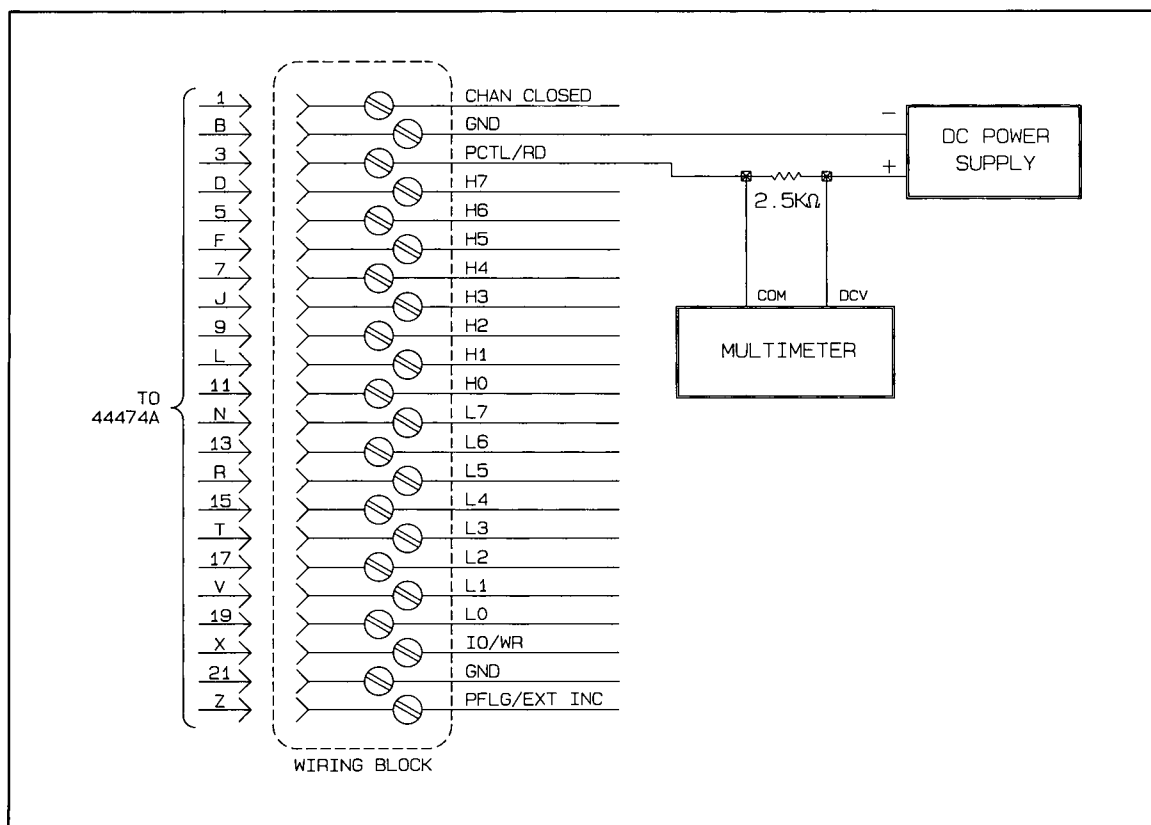

Figure 12-7 Control Line Low Output Test
17. Set the dc power supply to deliver 0Vdc. Connect the dc power supply, the multimeter, and the 2.5k ohm resistor to the PCTL/RD line as shown in Figure 12-7.